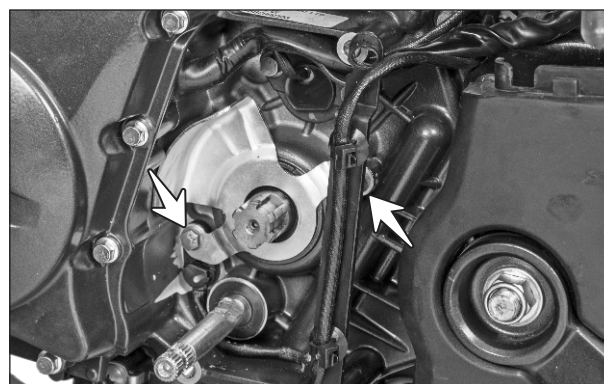

Fig. 2.100
- Remove the hexagonal flange bolt (M6x16 - 2 nos.) from the mounting of retainer oil seal and take out. (Fig. 2.100)